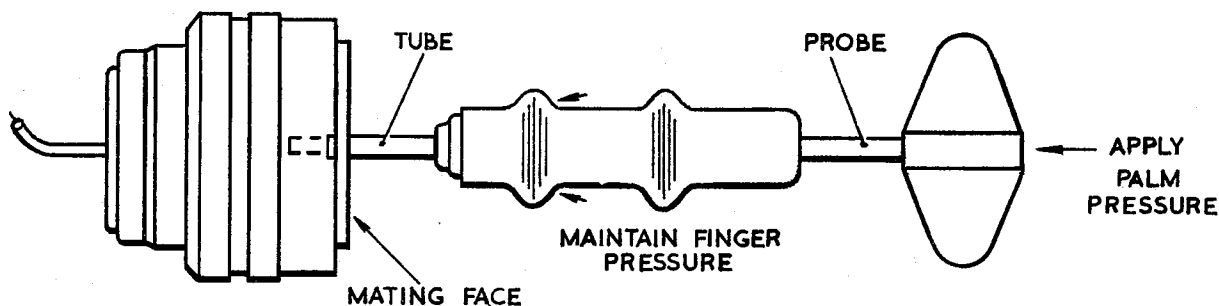

Fig. 11. Removal detail
- (2) Slide the removal tool tube towards the tool handle.
- (3) Centre the removal tool probe on the selected contact but do not apply pressure on the probe.
- (4) Slide the removal tool tube, by moderate finger pressure into the mating face of connector insert fig. 11.
- (5) Maintain finger pressure on the removal tool tube and steadily apply pressure by palm of hand to the removal tool probe, until contact unseats from the retaining spring clip.
- (6) If the contact fails to release, pull the removal tube free, rotate the tool and repeat the procedure.
- (7) Pull the contact free of rear insert cavity and remove tools from mating face cavity.